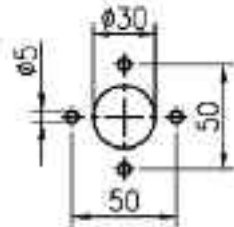

Figure 3: Opening dimension of the panel outside the cabinet
6.3. Panel opening size and operating handle outside the cabinet (see Figures 3 and 4)